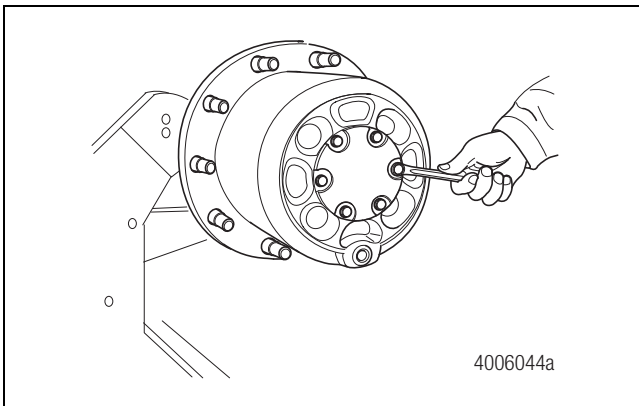

Figure 3.18
4. Use a wrench to remove the hub cover capscrews. Figure 3.18.